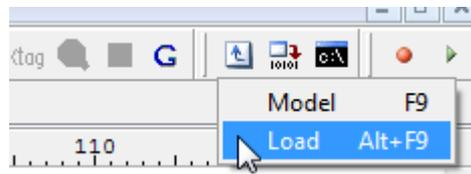

Fig. 9. Downloading the project to the board
8) For downloading project to the board press **ALT + F9** or click corresponding button on the toolbar (see Fig. 9).